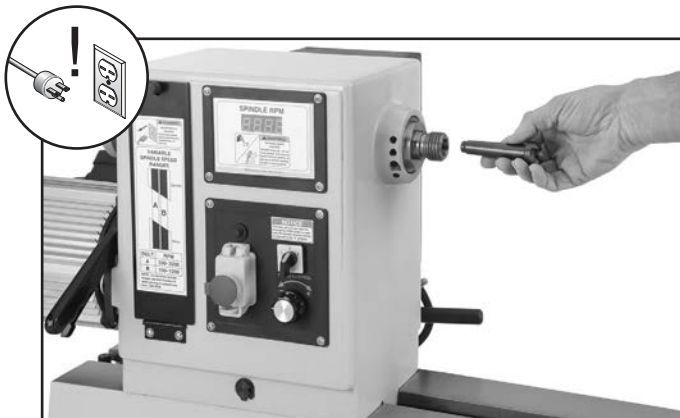

Figure 19. Installing center in headstock spindle.
3. Insert tapered end of center into spindle, and push it in with a quick, firm motion, as shown in **Figure 19**.